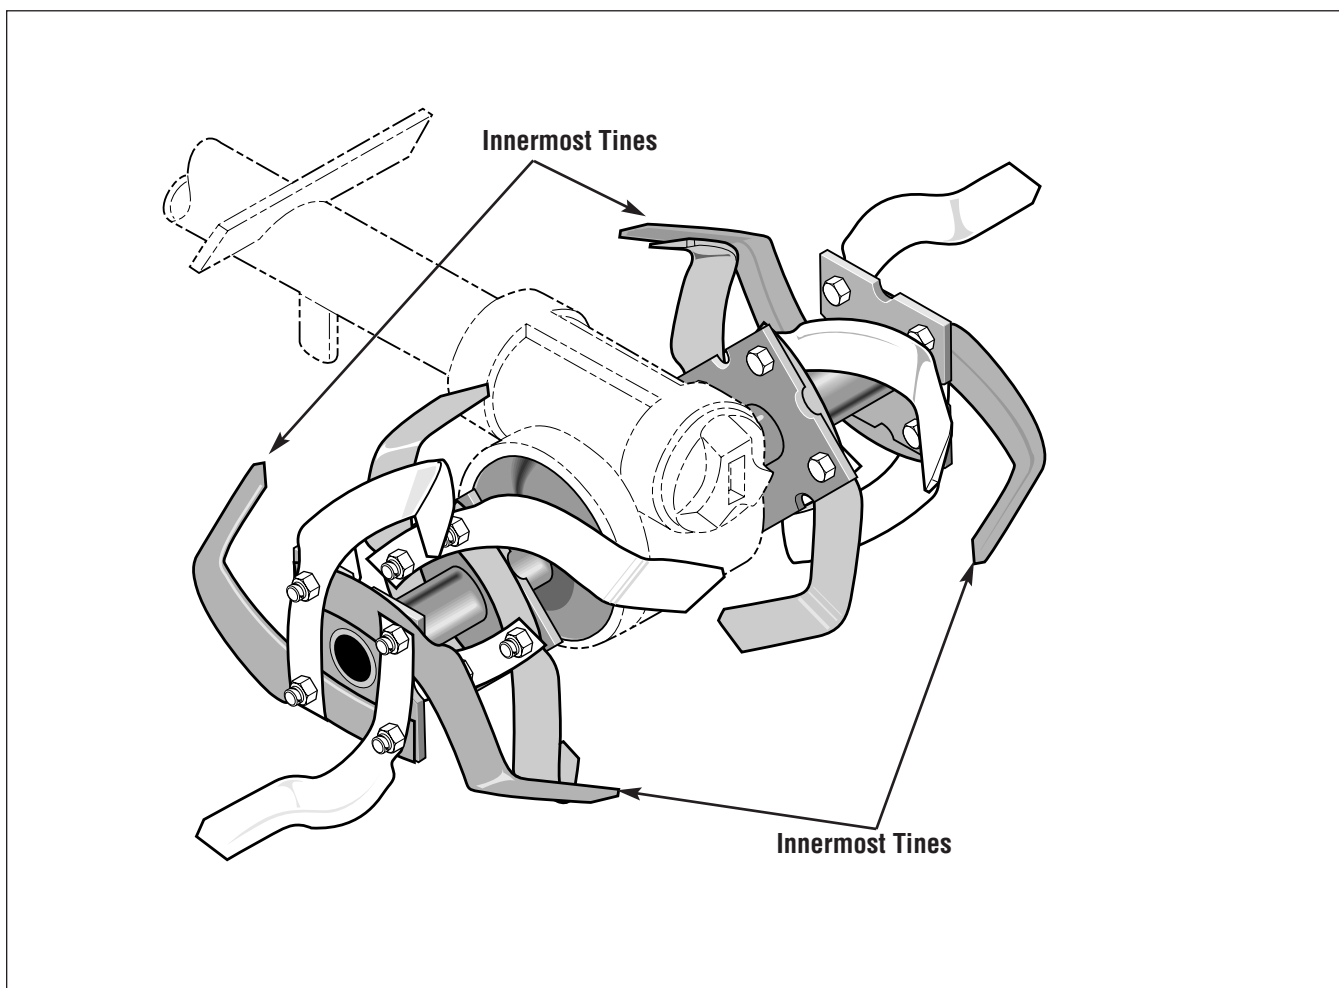

Figure 25: ECONO HORSE tines installed.
- ✓ The tips of these two tines should be directly opposite and point toward the tips of the two tines installed in Step 1-A. See Figure 25.
- ❑ Make sure that the tips of the four **innermost** tines on the outer holders are pointing toward each other and inward (toward the transmission housing). See Figure 25.